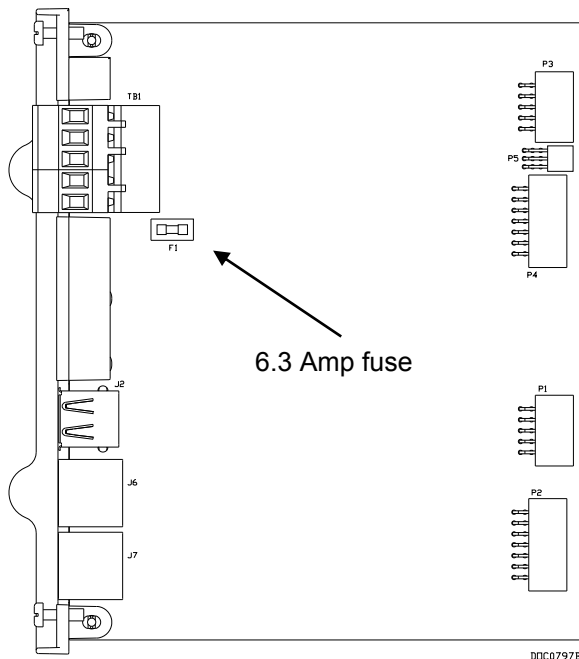

Figure 12. CPU 6.3 Amp Fuse
If the server does not function but you believe it has power and the POWER – LED does not light, you may need to replace the 6.3 amp fuse on the CPU module (see *Figure 12*).
7. Examine the fuse (refer to *Figure 12*) and, if necessary, replace with a MSB 6.3A SB (Slo-Blo) fuse.